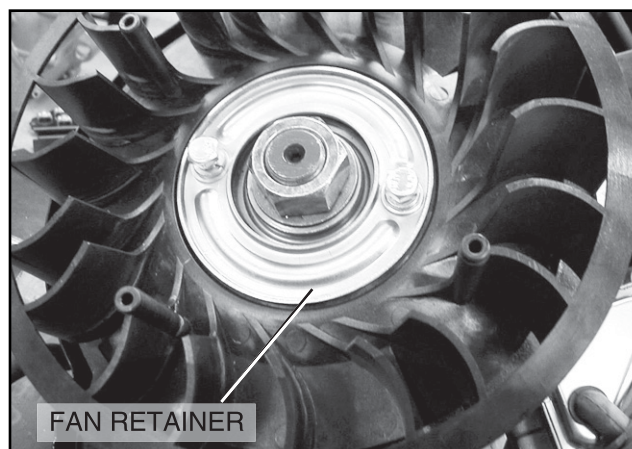

Figure 2-8. Installing Flywheel And Fan
4. Assemble fan and retainer to flywheel, Figure 2-8.